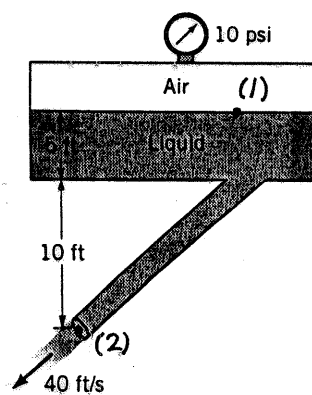

FIGURE P3.52
3.52 An inviscid, incompressible liquid flows steadily from the large pressurized tank shown in Fig. P3.52. The velocity at the exit is 40 ft/s. Determine the specific gravity of the liquid in the tank.